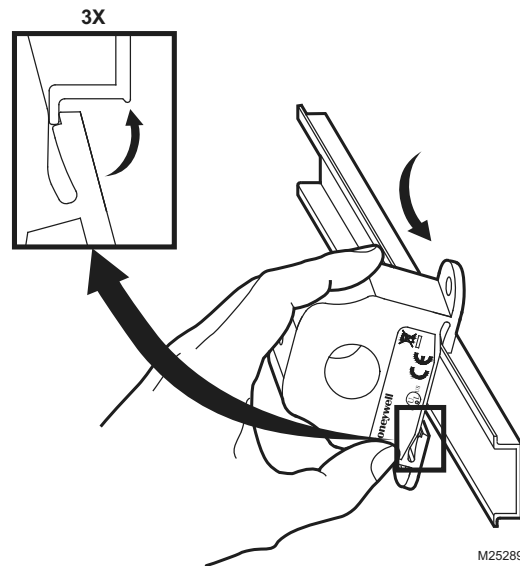

Fig. 3. Sensor placed on DIN rail
The current switch may be mounted in any position using the (2) #8 x 3/4 in. (19 mm) Tek screws and the mounting holes in the base or snapped directly on to the 1-3/8 in. (35 mm) DIN rail (See Figures 3 and 4). Leave a minimum distance of 1 in. (25 mm) between the current switch and any other magnetic devices, such as contactors and transformers.